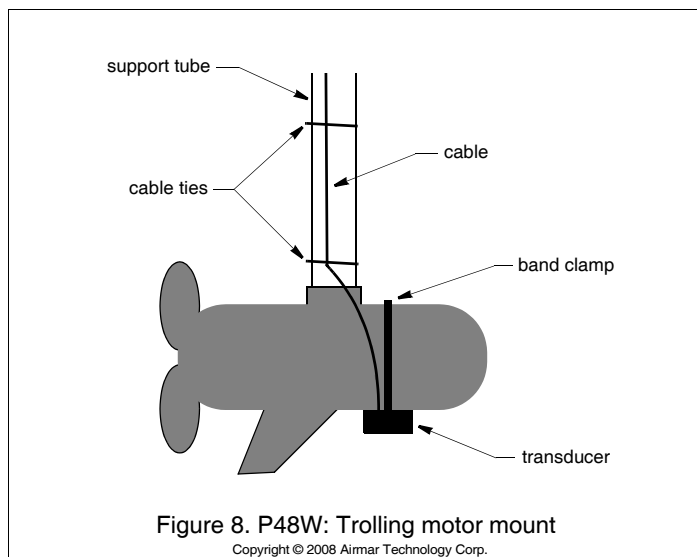

Figure 8. P48W: Trolling motor mount
- Band clamp (trolling motor mount) Measure before purchasing (Figure 8)
3. Wrap the band clamp around the motor case with the transducer located on the underside (see Figure 8). Tighten the screw on the band clamp.